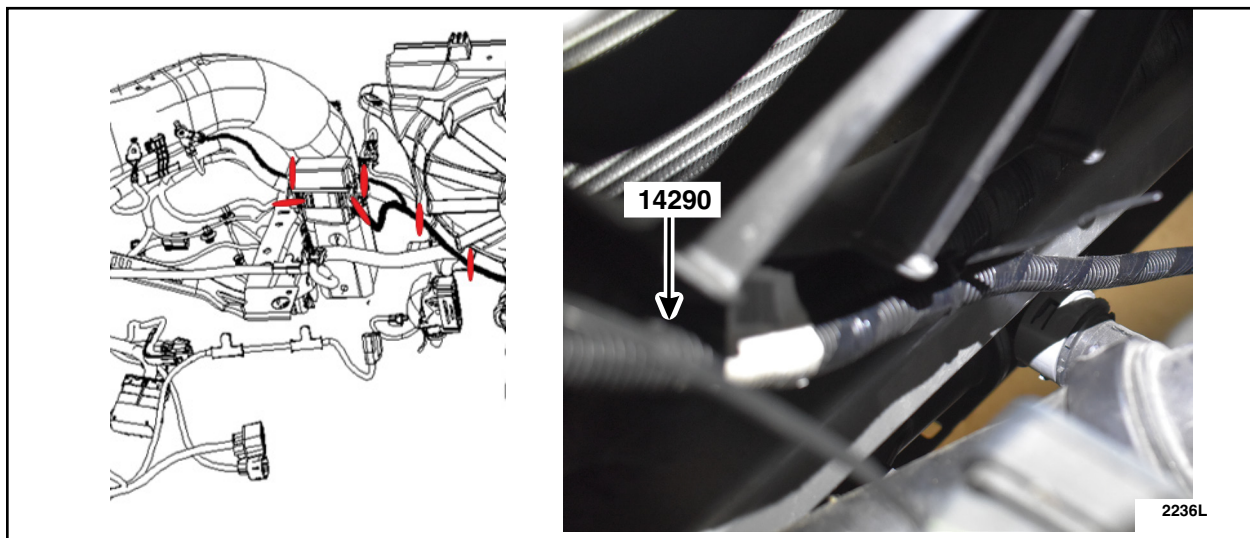

FIGURE 18
21. Secure the aux box harness bundle along with the engine bay harness (14290) using zip ties, See Figure 18.